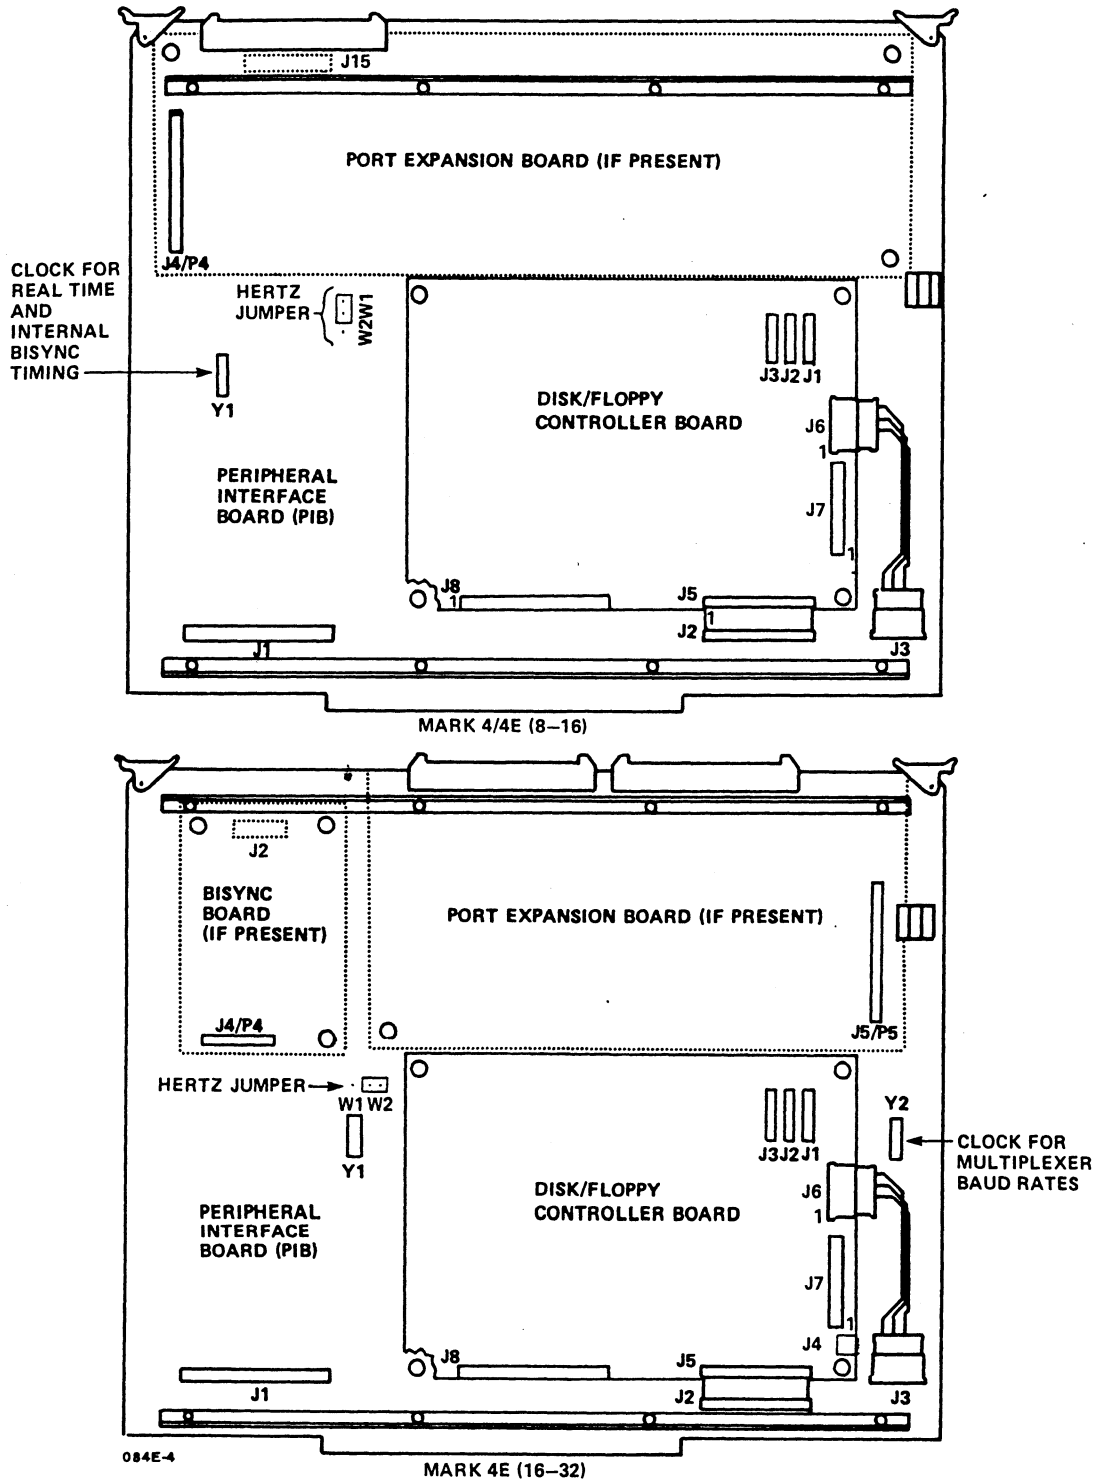

Figure 2-7. Checking Cable and Component Connections on the Peripheral Interface Board
12. Make certain that all cables connected to the peripheral interface board (PIB), disk/floppy controller board, and the MARK 4E (16-32) bisynchronous board (if present) are firmly connected (see Figure 2-7). Check connections at both ends.
13. Make certain that the components on the PIB are firmly seated (see Figure 2-7).